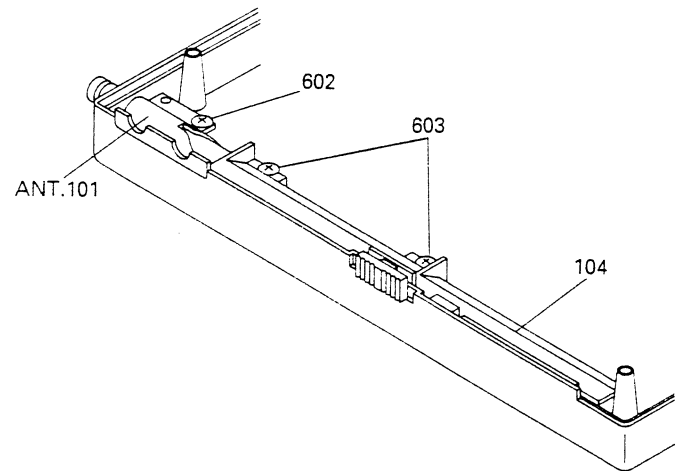

Fig.8
- Remove the tow screws (603) fixing the Antenna Holder (104). Fig.8
- Remove the Antenna Holder (104) from the Front Case (100). Fig.8
- Remove the screw (602) fixing the Antenna (ANT.101). Fig.8